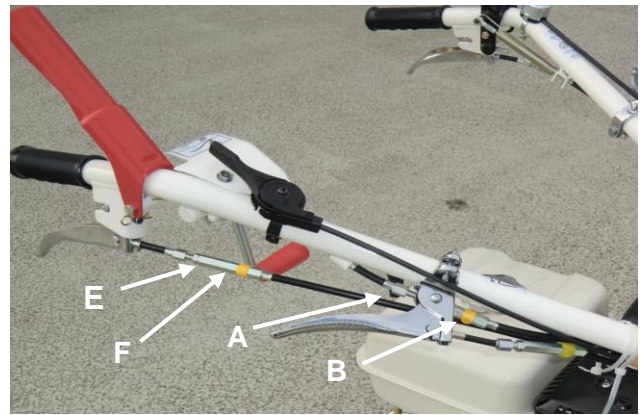

Figure 19
- If the blade does not stop when the blade lever is released, adjust the tension wire as follow : unscrew the locking screw (A Figure 19) and unscrew the nut B. Try the machine again. Perform the adjustment again if needed. When the adjustment is performed screw the locknut A on the nut B.
- If the blade does not move when transmission lever is pressed, adjust the tension wire as follow : unscrew the locking screw (A Figure 19) and after screw the nut B. Try the machine again. Perform the adjustment again if needed. When the adjustment is performed screw the locknut A on the nut B.